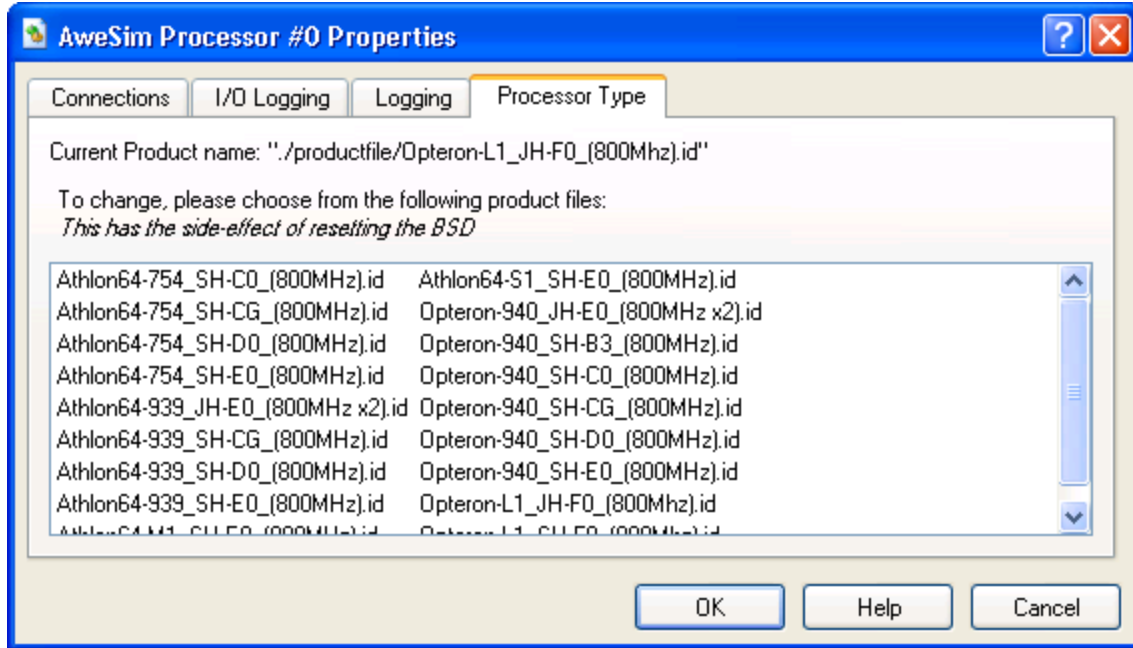

Figure 7-1: AweSim Processor-Type Properties
- Choose the *Ahtlon64-754_SH-C0_(800MHz).id* product file, as shown in Figure 7-1 on page 56.
The *Device Properties Window* is used to set various processor identification and behavior options. Figure 7-1 shows the *Processor Type* tab for the AweSim processor device. Here you can specify which member of the AMD microprocessor family should be simulated. The default is a standard AMD microprocessor. See Section A.2.3, *Product Files (*.ID)*, on page 179.